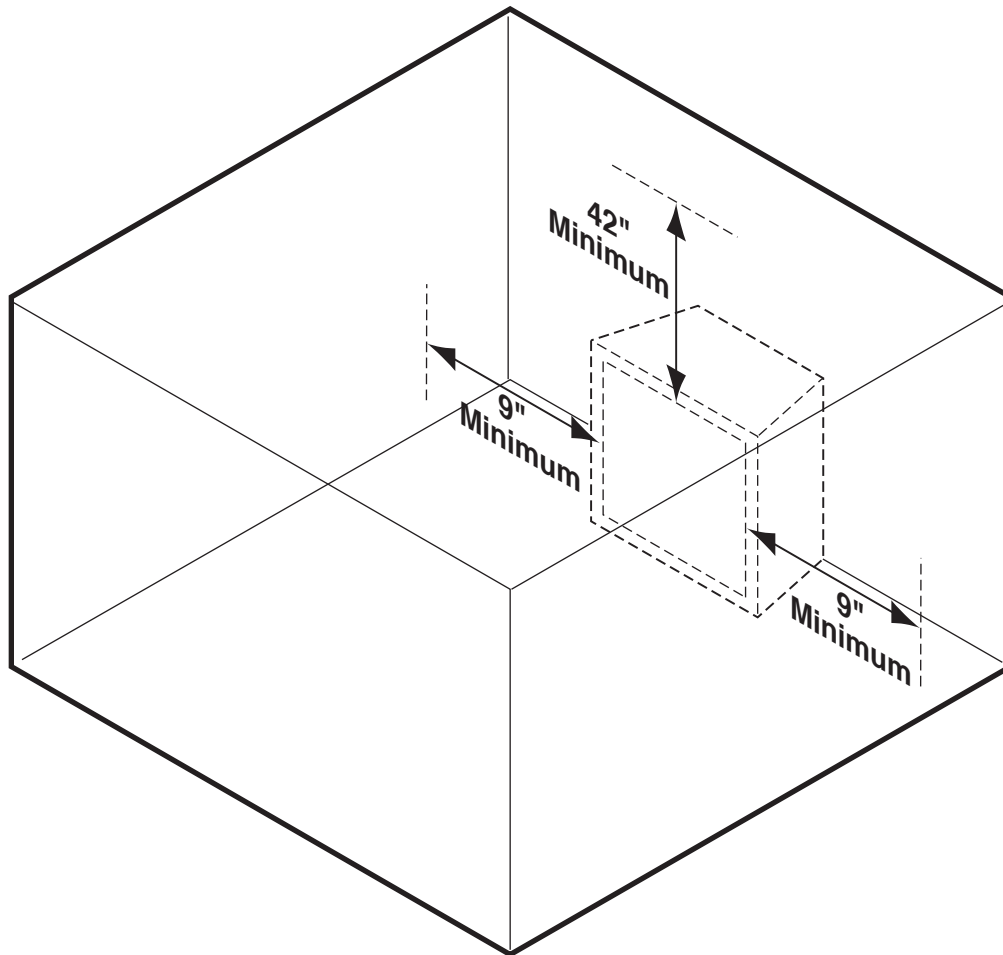

Figure 4 - Clearance and Height Requirements
Ensure that minimum clearances shown in Figures 4 through 7 are maintained. Left and right clearances are determined when facing the front of the firebox.
1. **Sidewall clearances:** The clearance from the inside of the appliance to any combustible wall should not be less than 9". See Figure 4.
2. **Ceiling clearance:** The ceiling must be at least 42" from the top of the firebox opening. See Figure 4.